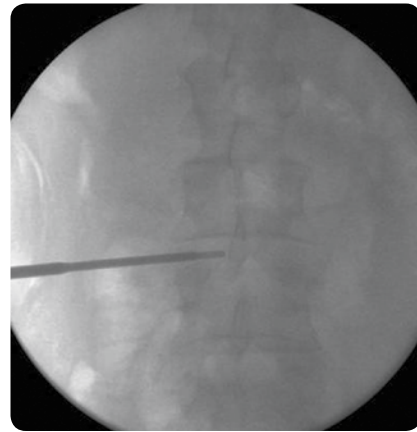

Figure 16
Step 4 After the NIM® X-PAK Probe has safely dissected through the psoas, the tip of the probe as well as a portion of the insulated cannula should be tapped into the disc space to secure its location (**Figure 16**).